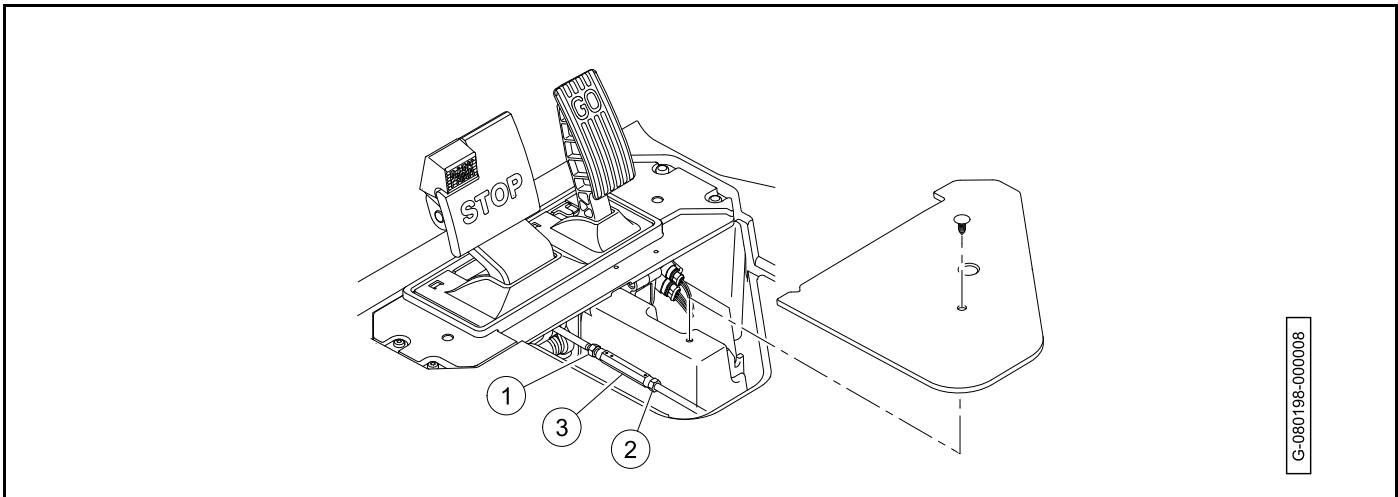

Figure 6-1
8. Loosen the left-hand thread jam nut (1) and right-hand thread jam nut (2) (**Figure 6-1**).